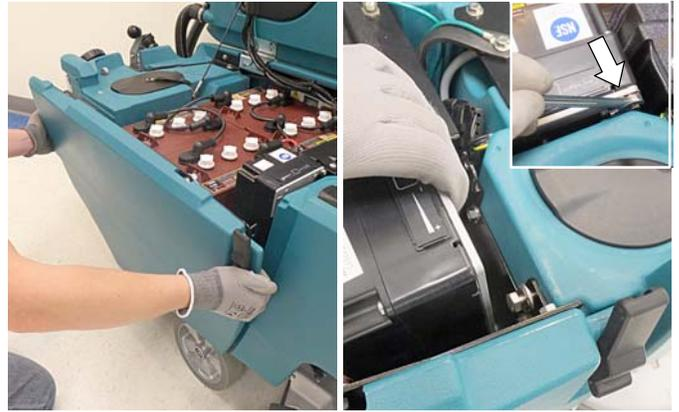

FIG. 31
32. Reinstall the side panel (FIG. 31). If machine is equipped with ec-H2O, replace the ec-H2O module in bracket and secure with screw.